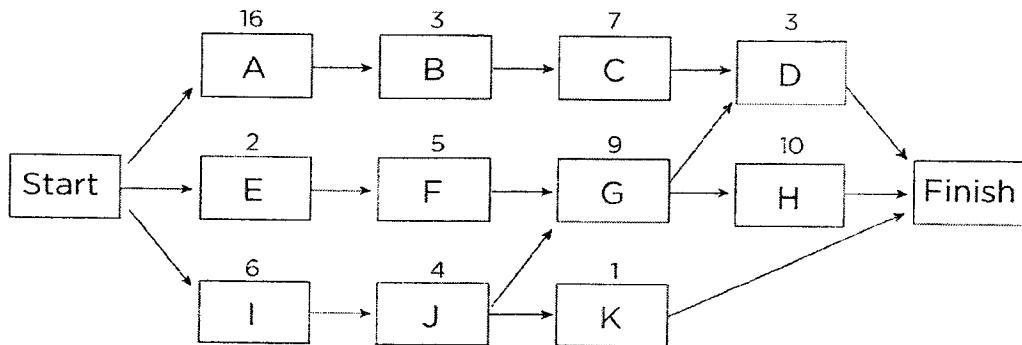

Figure 6-7: Project Network Diagram.
In order to test yourself on time management, complete the following questions based on Figure 6-7 below.
1. List all the paths through the network logic diagram as illustrated in Figure 6-7.
2. What is the critical path through the network diagram shown in Figure 6-7?
3. List the slack for each activity in the network diagram shown in Figure 6-7.